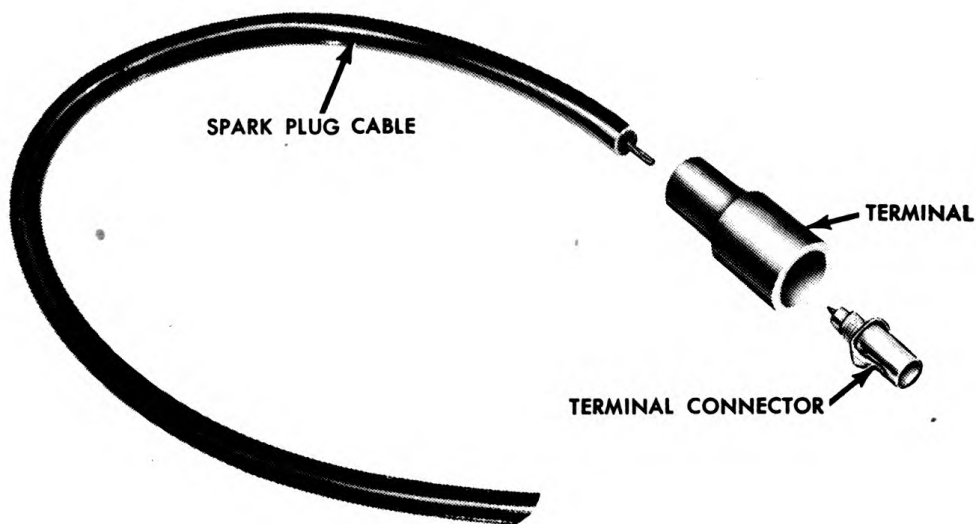
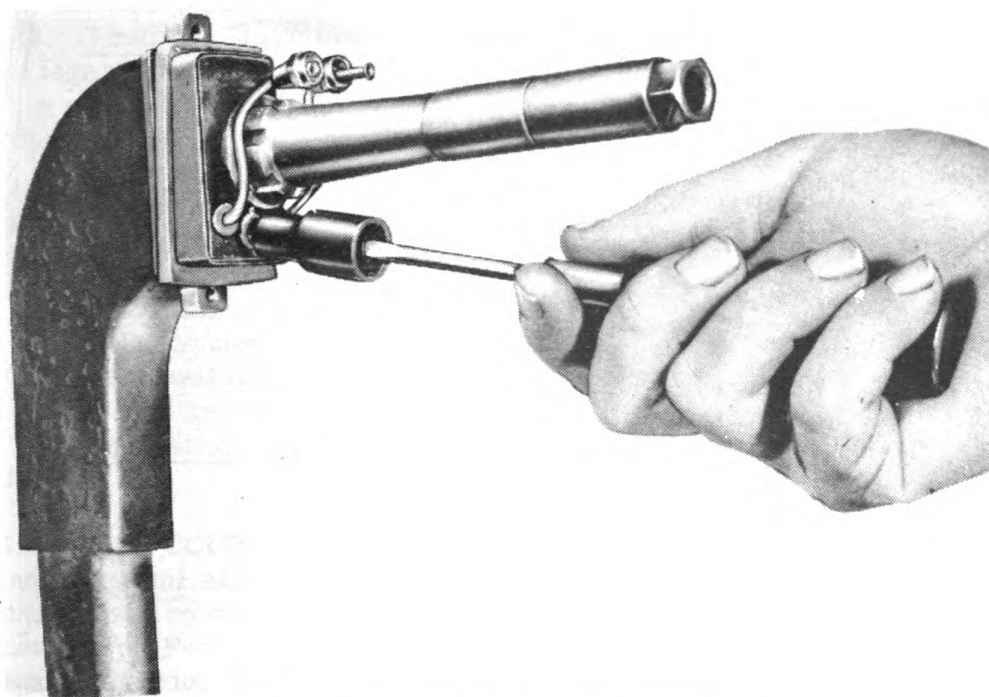

Fig. 77. Spark plug cable.
Fig. 79. Unscrewing terminal connector.
d. Replacing spark plug cable (figs. 77 and 78). Remove spark plug end terminal by inserting screwdriver blade into terminal connection, unscrewing connector (fig. 79), and removing terminal from cable.